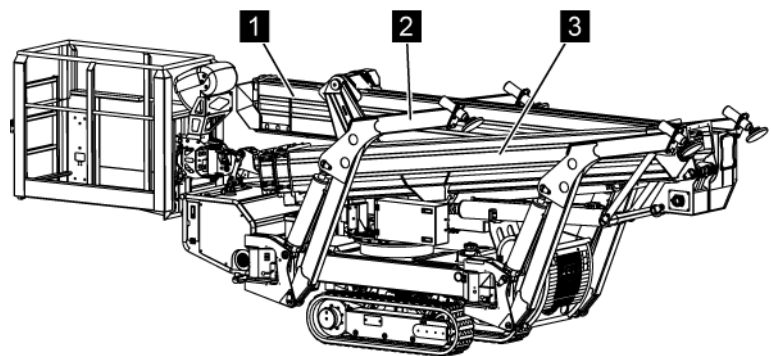

Fig. 116: Transport position
- The upper boom (Fig. 116/1) is on the transport support.
- The lower boom (Fig. 116/3) is on the transport support.
- The outriggers (Fig. 116/2) are retracted and in the transport position.